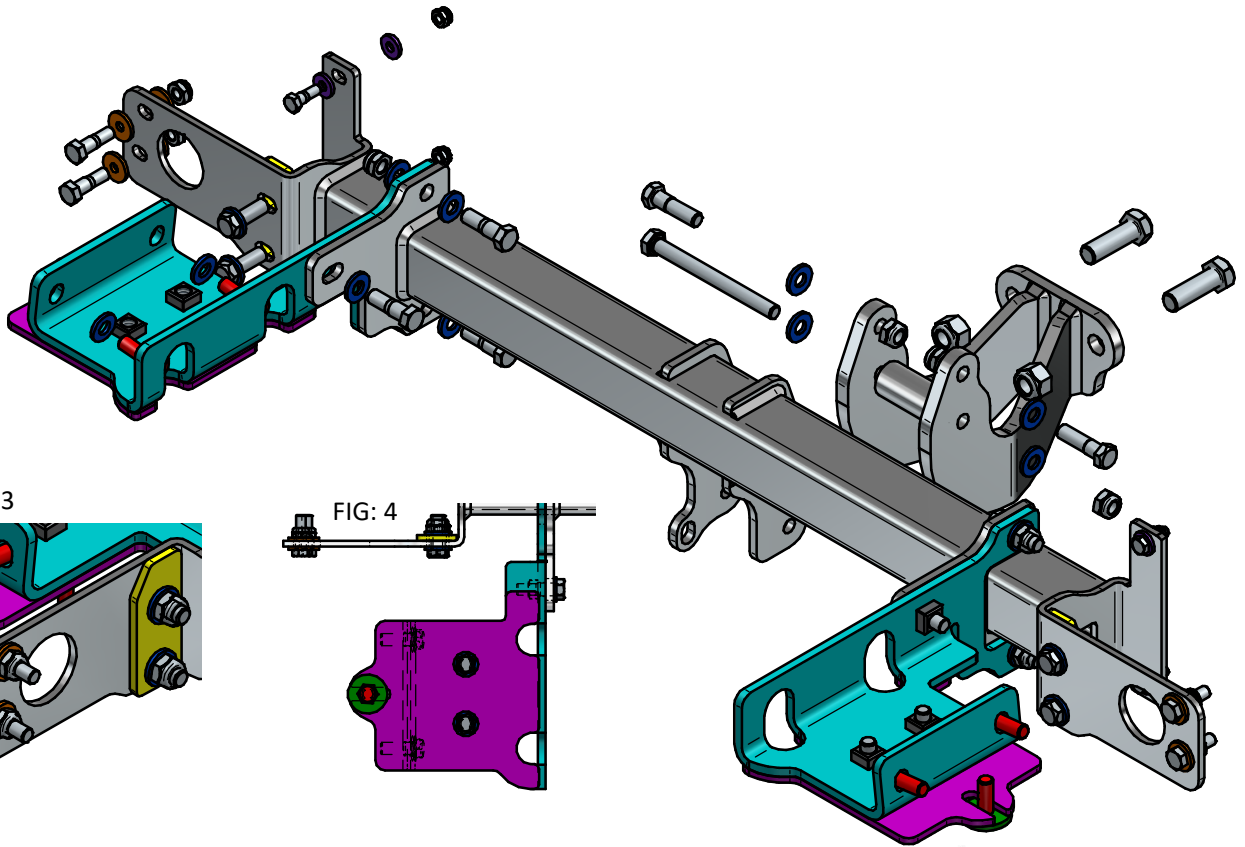

FIG: 3
4. Fit Item A to the rear panel using Item J and Item R on the outer mounting points (M10) and Item H with Item Q on the inner points (M12), using Item D as a clamp plate on Item A. (FIG: 3)